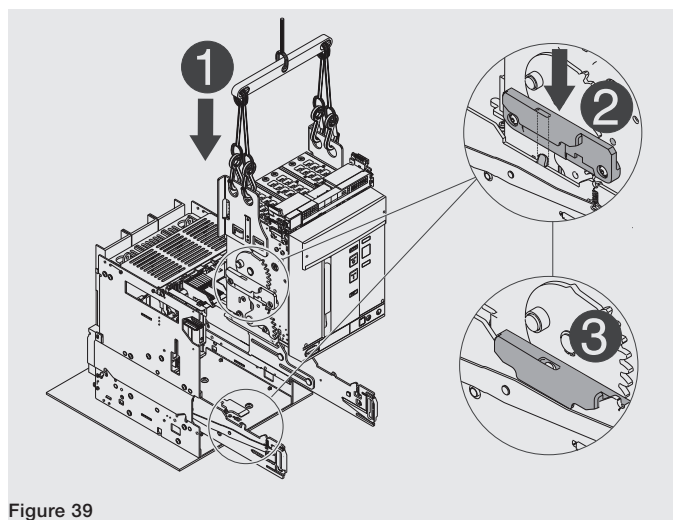

Figure 39
3. Position the moving part over the guides of the fixed part. Latch by inserting the hollow part of the side in the latch of the guide of the fixed part See Figure 39.